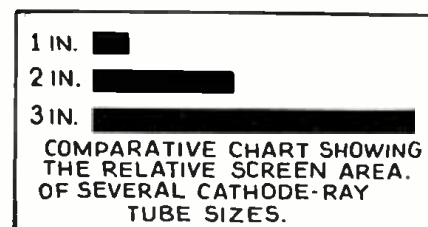

Fig. 1. Comparative C.-R. tube screen areas.
**Effective Area.** Figure 1 compares the area of the 3 tube sizes. The actual figures of effective area are given, at A, B, and C, page 205. It is well to consider a cathode ray tube screen from the angle of effective usable area, because in this way the true proportions of the image can be anticipated.